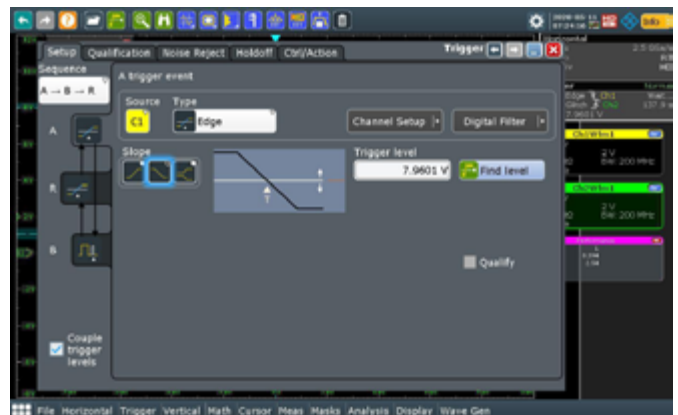

Figure 1: Trigger setup: Edge event on negative slope for trigger A at the low side switch.
Firstly, select a trigger sequence so that it is possible to define three events (A, B, R) in a sequence. Define the first trigger event (A) as a negative edge trigger to catch the falling edge of the gate-to-source voltage at the low-side switch (Figure 1). Define a suitable trigger level for this condition. This trigger event will catch every switch-off event on the low-side switching device during continuous operation of the half bridge.